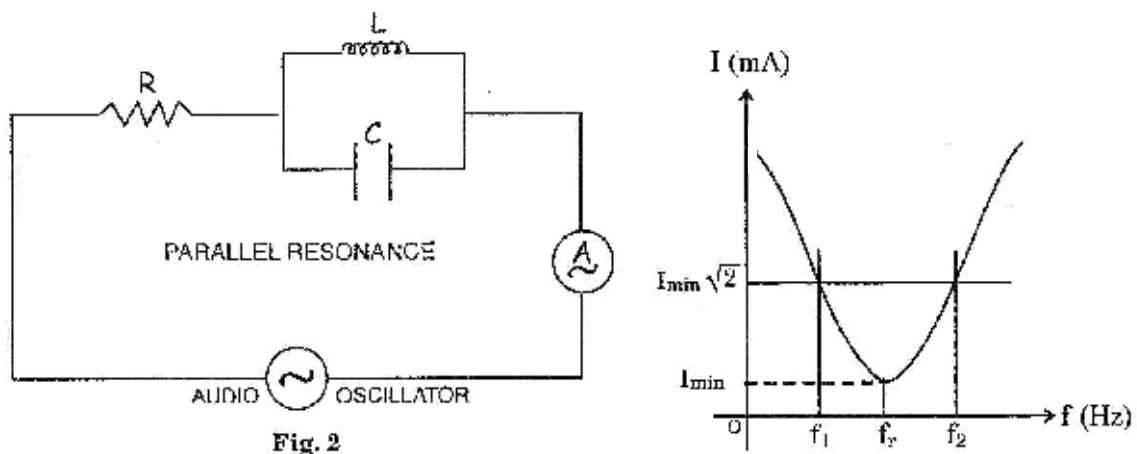

Fig. 2
- ❖ Circuit connections for parallel resonance are made as shown in Fig. 2